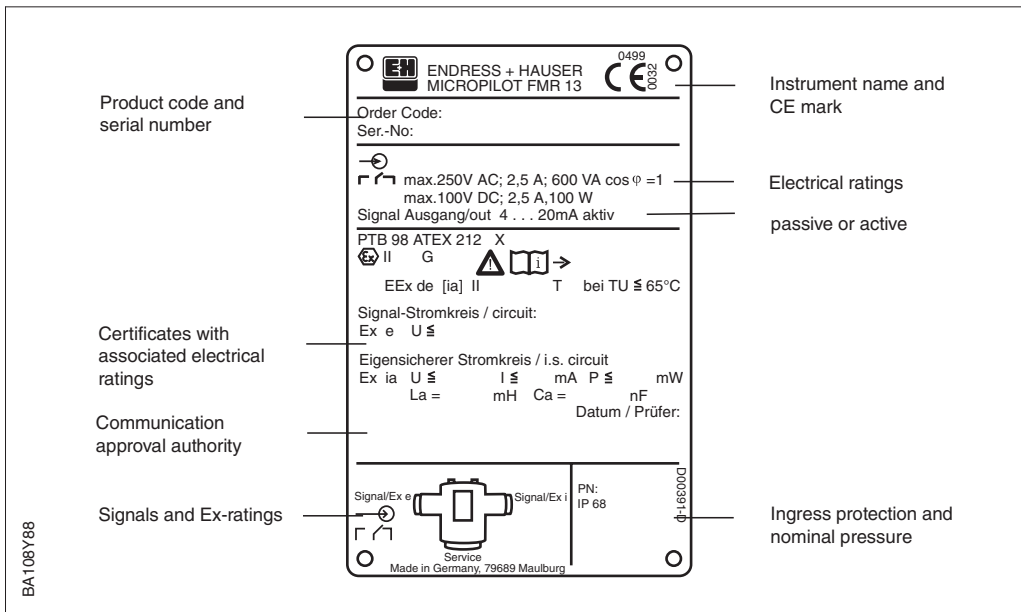

Fig. 3.2 Information on Micropilot nameplate
- All data relating to the version and electrical connection are printed on the nameplate, see Fig. 3.2.